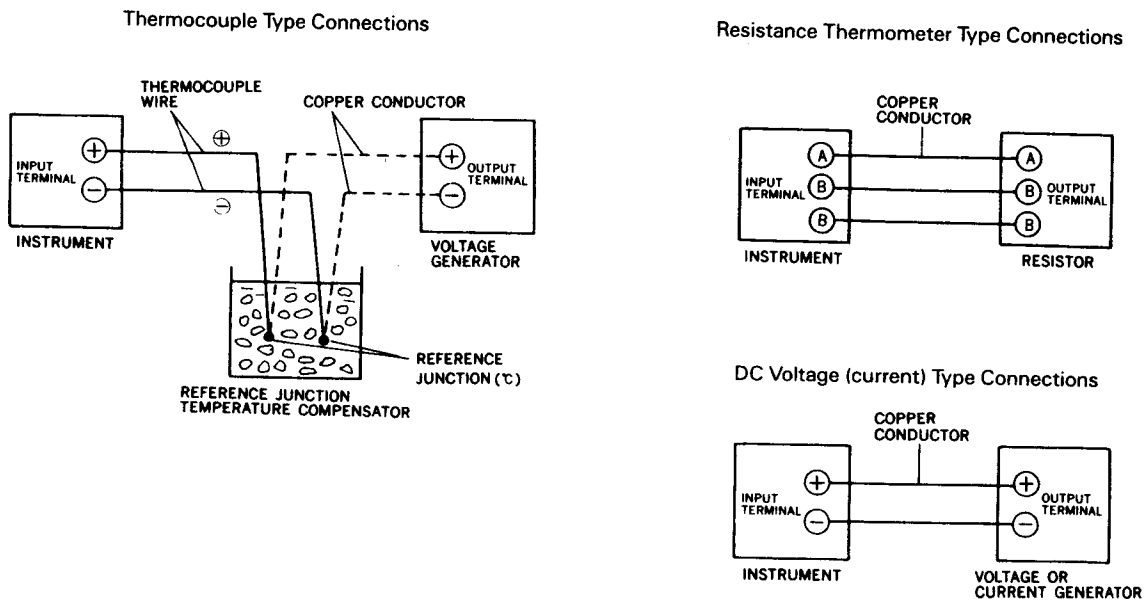

Figure 4-2. Thermocouple, Voltage and RTD Connections for Scale Test
- 2a. For thermocouple and voltage models: Connect a precision dc voltage source with enough range to cover the recorder's span. On models with mV/ or V inputs, connect from the mV and V source directly to the recorder. For models with thermocouple inputs, attach a cold junction reference between the recorder and the mV source. See Figure 4-2.
- 2b. For RTD Models: Connect a precision variable resistor with enough ohms to cover recorder's span to A, B, B. (See Figure 4-2).